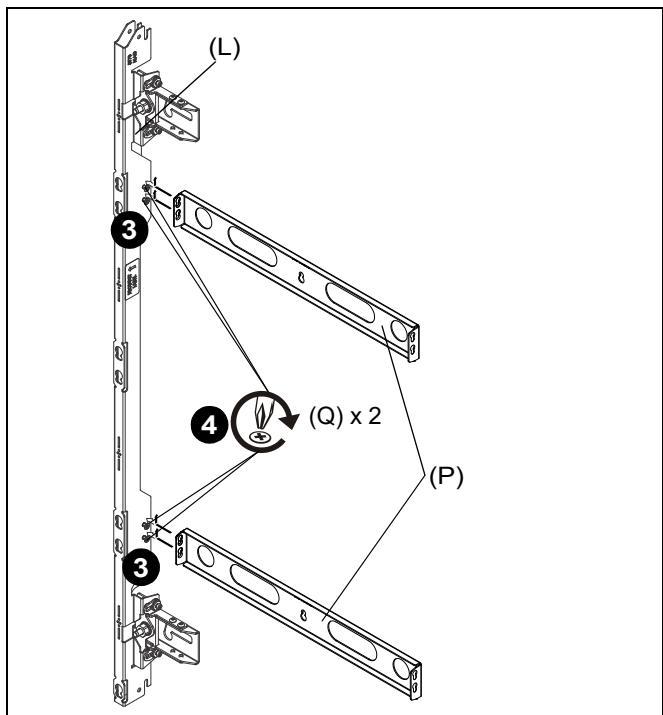

Figure 4
3. Hang spacer plates (P) onto screws loosely installed in Step 2. (See Figure 4)
4. Tighten Phillips undercut machine screws (Q) to secure left upright (L) to spacer plate (P). (See Figure 4)